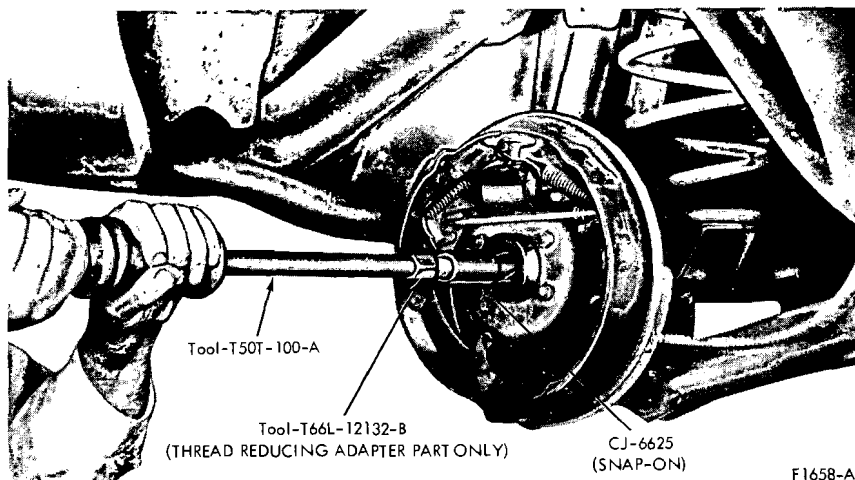

FIG. 7 Removal of Axle Seal or Axle Bearing
9. Remove the bearing and oil seal from the housing as shown in Fig. 7.